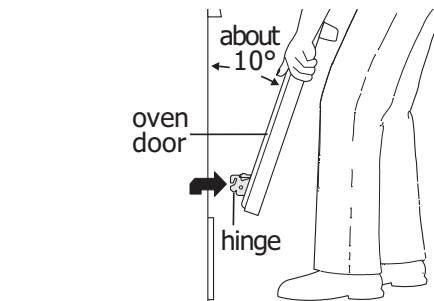
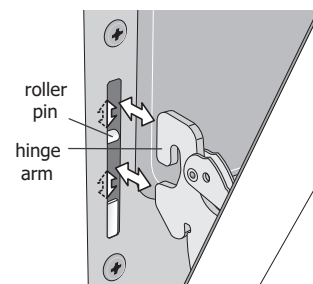

Figure 37: Holding door for removal
Figure 38: Replacement and location of hinge arm and roller pin
3. Firmly grasp both sides of oven door along the door sides. Do not use the oven door handle (See Figure 37).
4. Close the door to approximately 10 degrees from the door frame (See Figure 37).
5. Lift the oven door hinge arms over the roller pins located on each side of the oven frame (See Figure 38).
1. Firmly grasp both sides of oven door along the door sides. Do not use the oven door handle (See Figure 37).
2. Holding the oven door at the same angle as the removal position, seat the hook of the hinge arm over the roller pins located on each side of the oven door frame (See Figure 37 and Figure 38). The hook of the hinge arms must be fully seated onto the roller pins.